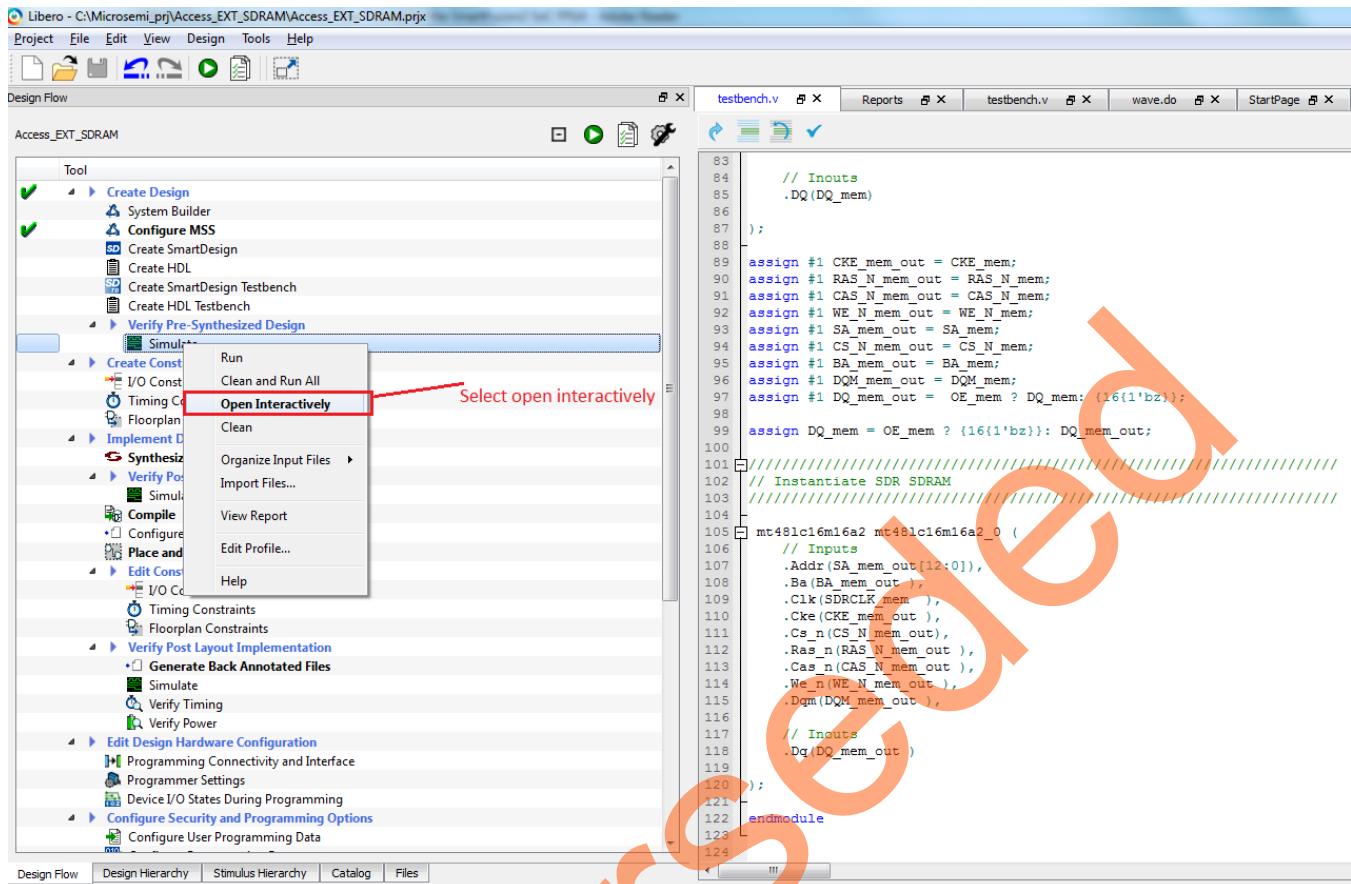

Figure 35. Invoke ModelSim
- After specifying the testbench stimulus file, expand the **Verify Pre-Synthesized Design** option, select the **Simulate** option under it, right-click and select **Open Interactively** to invoke ModelSim, as shown in Figure 35. ModelSim is invoked and the design is loaded.